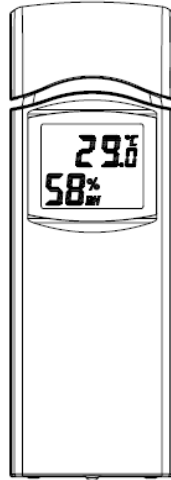

Figure 15
2. After inserting the batteries, the remote sensor will display temperature, humidity and barometric pressure on the display, as shown in Figure 15.